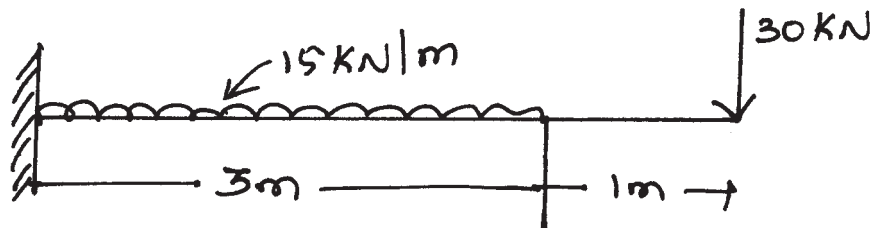

Fig. No. 2
- d) Calculate support moments and draw BMD of a beam as shown in Fig. No. 2. Use moment distribution method.